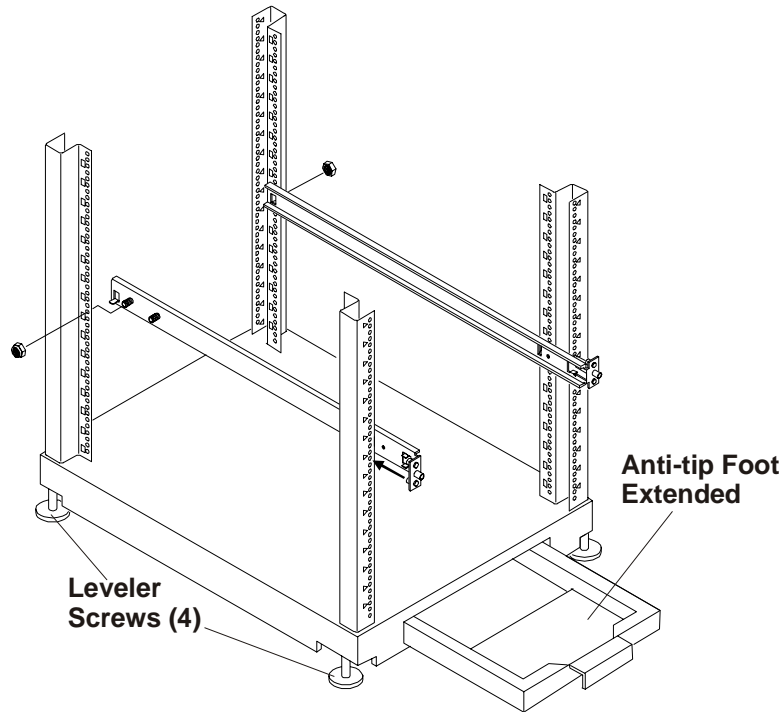

Figure 13-4. Mounting Outer-Rails to Columns
See Figure 13-4 for the anti-tip foot location.
2. Lower the leveler screws on the rack's lower four corners to make firm contact with the floor. See Figure 13-4.
3. Align the left outer-rail assembly to the left front and rear columns as shown in Figure 13-4.
5. Insert the last screw stud on the outer rail into the center hole of the three holes in the EIA unit just below the marking tape on the rear column. See Figure 13-4.
To prevent the rack from rolling while you mount the HP Netserver, ensure the leveler screws on the rack's lower four corners are in firm contact with the floor. See Figure 13-4.
1. Lower the leveler screws on the rack's lower four corners to make firm contact with the floor. See Figure 13-4.
2. Ensure you have extended the anti-tip foot from the rack before continuing this procedure. See Figure 13-4.